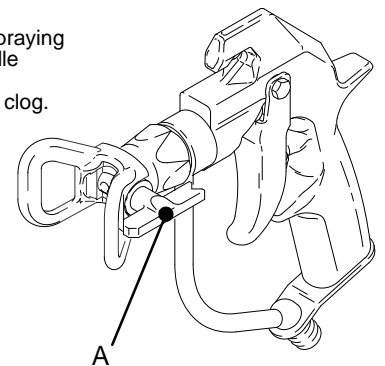

Fig. 4
1. Lock the gun trigger safety. Rotate the guard handle 180°. See Fig. 4.